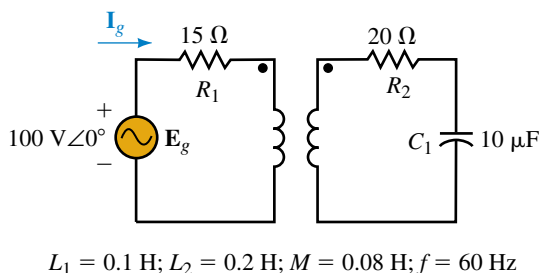

FIGURE 24-83
42. For the circuit of Figure 24-83,